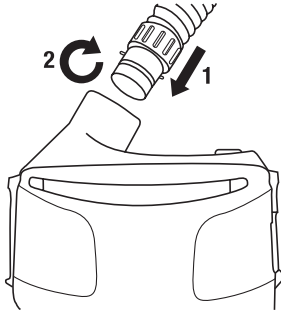

Fig. 8 Installing breathing tube
1. Insert the end of the breathing tube with the bayonet fitting (two small prongs) into the parallel slots in the air outlet of the motor/blower (Fig. 8).